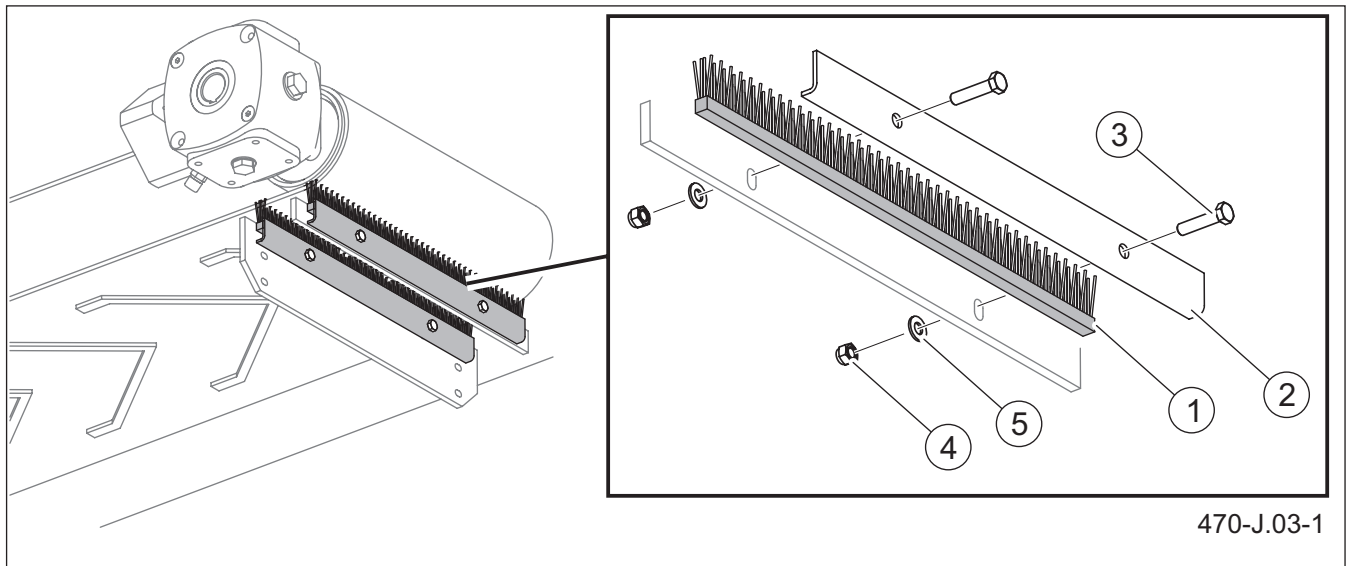

Figure 6.3 Replacement of conveyor belt brushes
Before starting the adjustment (figure 6.3), loosen the
- Unscrew bolts (3) and remove clamping strip (2).
- Remove worn or damaged brush (1) and replace it with a new one (Figure 6.3).